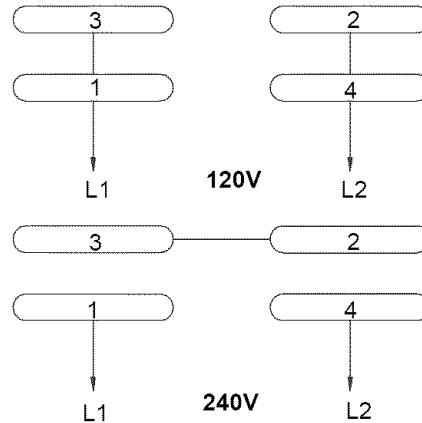

Figure 12 - Wiring Schematic
- See wiring diagram (Figure 12) for wiring instructions.